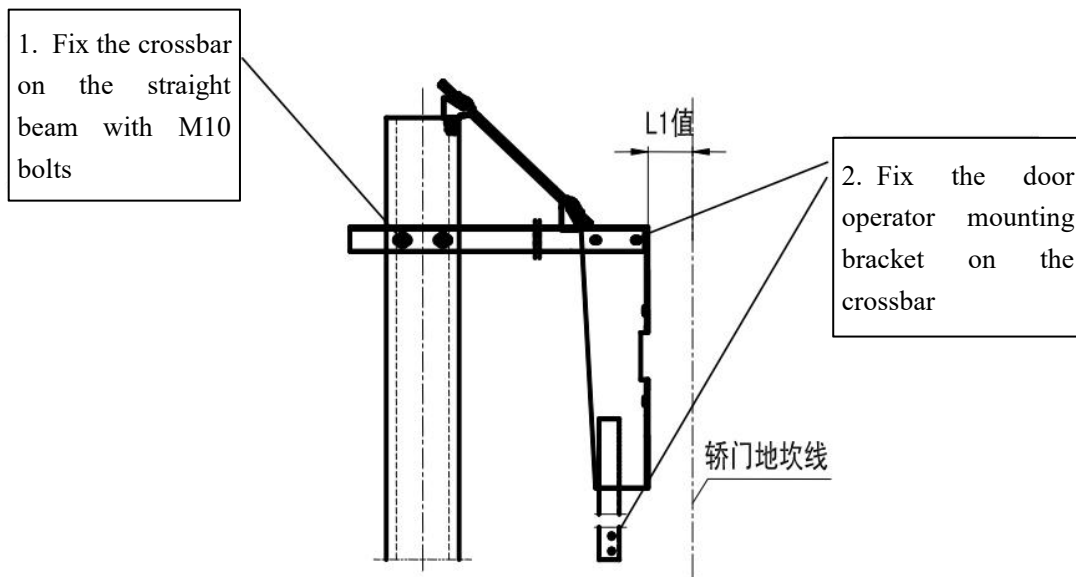

Figure 4 Column installation diagram
① Install the door slider in the plastic packaging onto the car door panel.
② Attach the car door panel to the hanging panel and tighten the bolts
③ Adjust the verticality of the hanging plate. If the hanging plate is tilted, insert shims at the connection between the hanging plate and the door panel. .
④ Adjust the distance between the caster wheel and guide rail to 0.1-0.3mm
⑤ Adjust the levelness of the two fast door panels to $\leq 0.5\text{mm}$, as shown in Figures 4.
⑥ Adjust the verticality of two door operator and the distance between door panel, car front and sill.